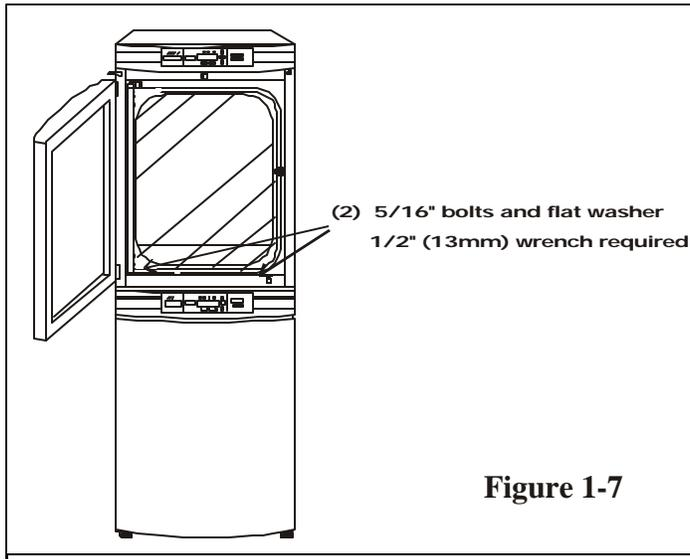

Figure 1-7
- Align the sides of the *top* unit with the *bottom* unit and slide the *top* unit forward until the slots in the base of the *top* unit align with the 5/16" - 18 stacking bolts in the exterior top of the *bottom* unit. Refer to Figure 1-7.